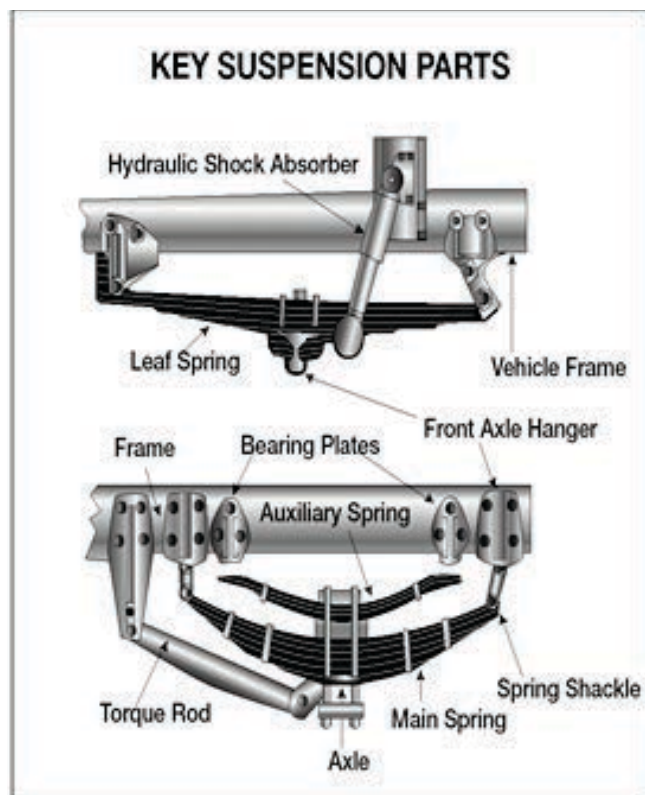

Figure 2.2
- ✓ Spring hangers that allow movement of axle from proper position. See Figure 2.2. for key suspension parts